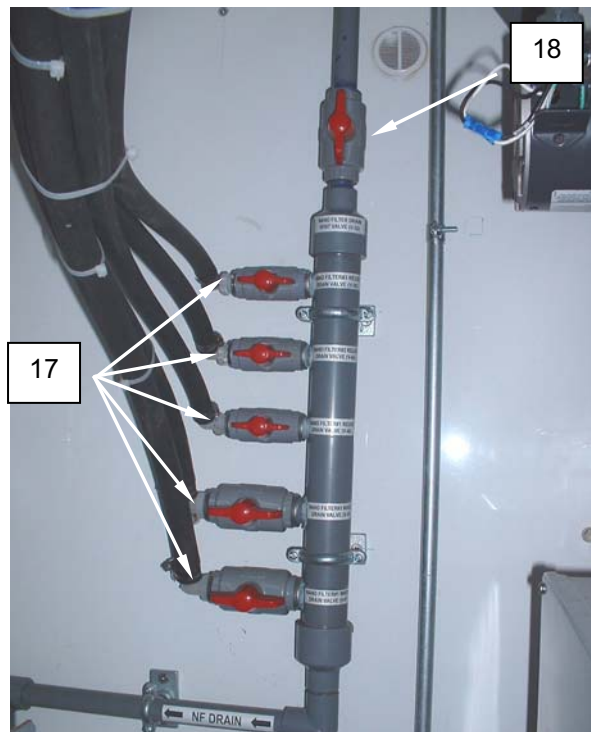

Figure 17. Sodium Bisulfite Preservation Procedure.
18. Open the nanofilter drain valves (Figure 17, Item 17).
19. Ensure the vent shutoff valve (Figure 17, Item 18) is open.